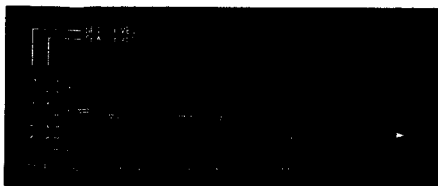

Fig. 24
**SOFT (PROGRAMED C) Fig. 24**
**SOFT (C PROGRAMED) Fig. 24**